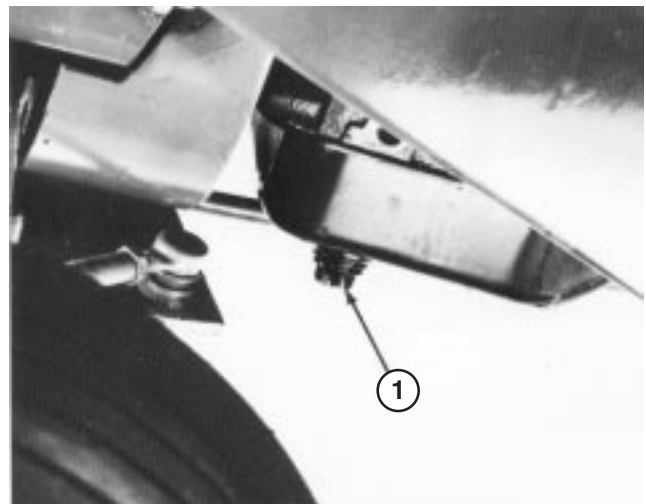

Figure 41
2. Disengage hood latch and open the hood. Set drain pan under the housing and in line with drain plug (Fig. 41).